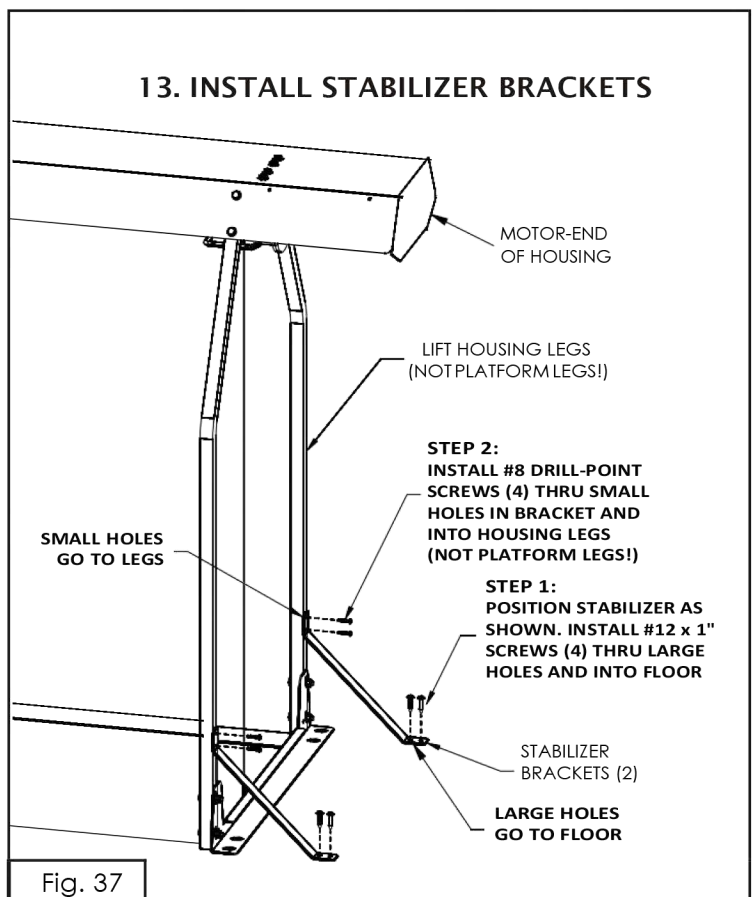

Fig. 37
Note: Position the stabilizer bracket with the **small-hole ends against the legs** and the **large-hole ends on the floor**. With the bracket at 45 degrees the ends should be in flush contact with both the housing legs and the floor. Bend the ends slightly, if needed (see Fig. 37).
Step 1: Position the stabilizer bracket as detailed below under the **motor-end** of the lifting head (see Fig. 37). Install the #12 x 1" screws (4) through the larger holes and into the floor decking. Tighten screws snug, but be careful not to strip them out.
Step 2: Using a drill or driver, install the #8 drill-point screws through the smaller holes in the upper end of the bracket and into the housing leg (see Fig. 37). Take care not to drive the screw too fast, because when it becomes tight the screw will stop instantly and it can break off!
IMPORTANT: For safety reasons, install the brackets under the motor-end (over-hang) of the lifting head so they don't project into your walking path (see Fig. 37).